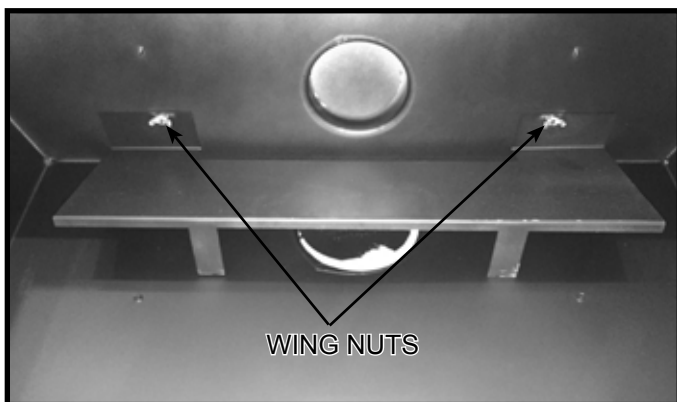

Figure 4. Remove Existing Factory-Installed Exhaust Baffle
6. **(QUARTZ32 & QUARTZ36 Only):** Remove existing exhaust baffle by removing two wing nuts. Retain the wing nuts for use in Step 11. See Figure 4.